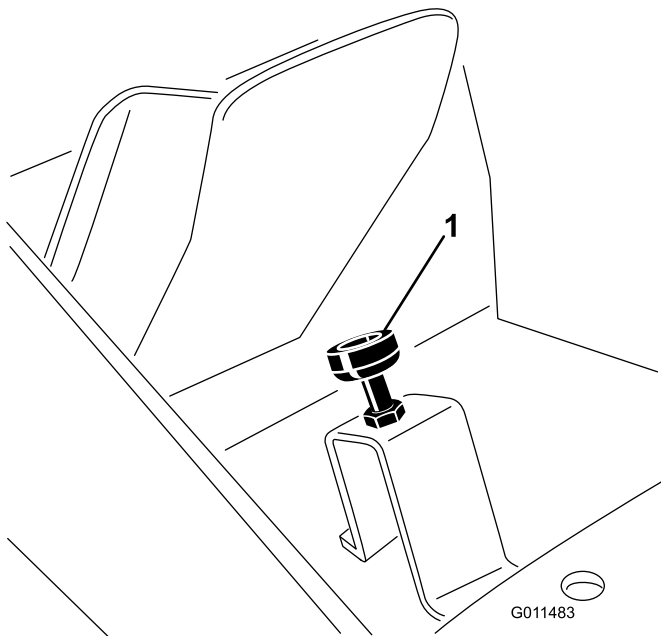

Figure 73
2. Depress the traction pedal until it is at full stroke (Figure 73). The jam nuts may have to be loosened and the stop lowered to attain full stroke.
3. Release the traction pedal and adjust the stop another half to full turn so that the pedal contacts the stop just before full stroke is attained, then, tighten the jam nuts (Figure 73).